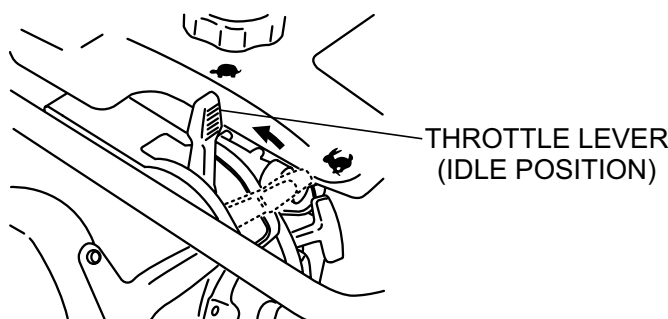
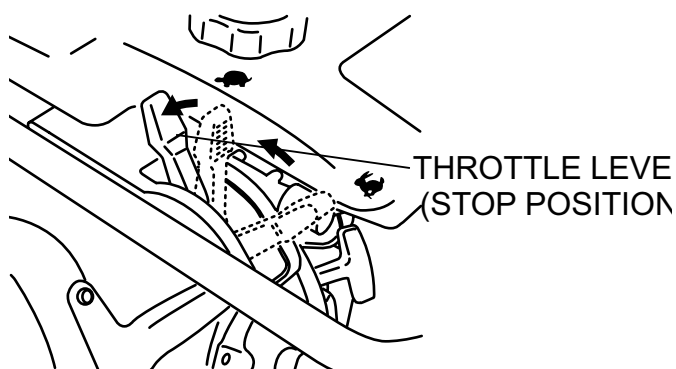

Figure 6. Throttle Lever (Idle Position)
Figure 10. Throttle Lever (Stop Position)
1. Slide the throttle lever from the stop to the idle position (🚗) (Figure 6). This opens the fuel cock and the engine electrical circuit is turned on automatically.
3. To stop the tamping action, move throttle lever quickly from **START** to **IDLE** position (Figure 6).
1. Move throttle lever quickly from the **START** to **IDLE** position (Figure 6) and run the engine for three minutes at low speed. After the engine **cools**, move the throttle lever to the **STOP** position (Figure 10). The engine will stop and the fuel cock is automatically closed.